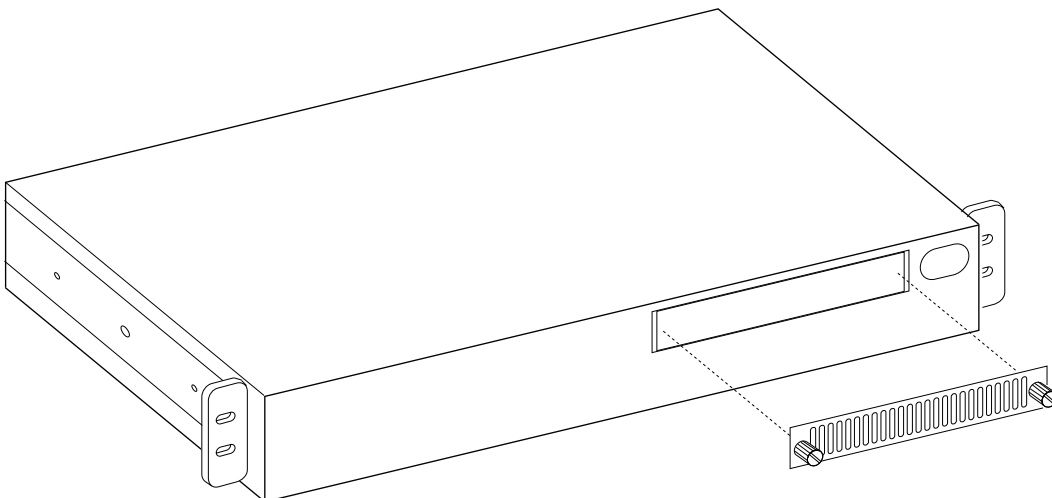

Figure 3-1. Removing the UFC Slot Cover
- Step 2.** Remove the plate covering the UFC slot on the front of the 8271 by removing the two thumbscrews holding it in place. See Figure 3-1. Retain the plate and thumbscrews for use in the event that the UFC is ever removed.